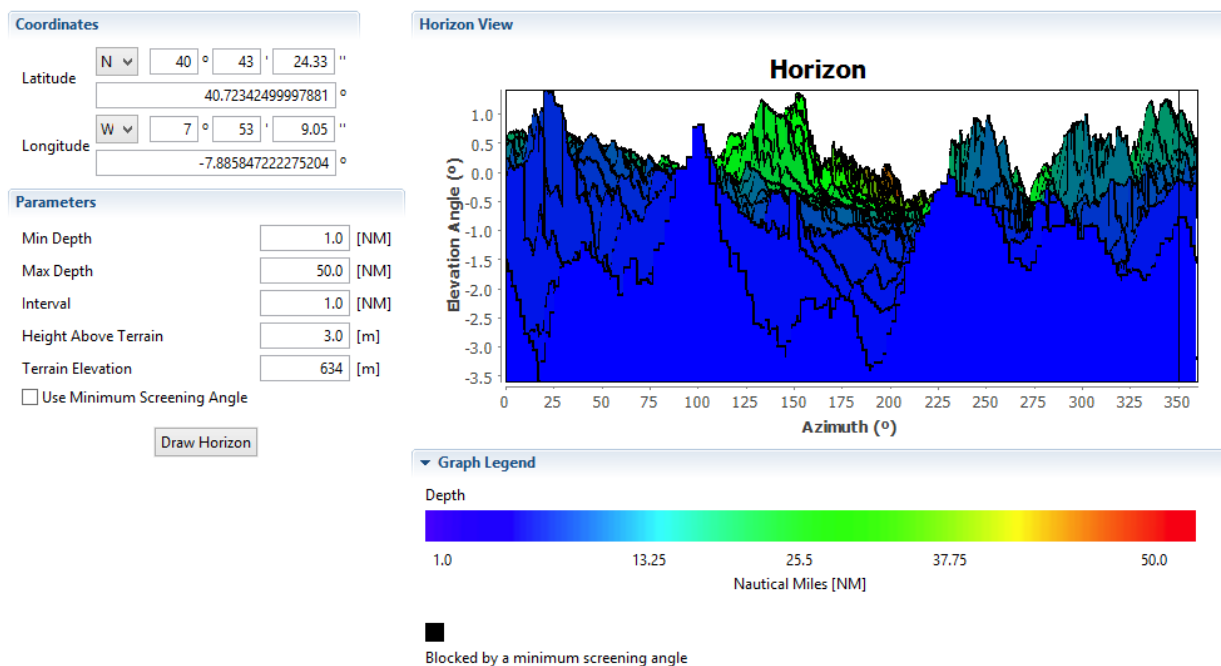

Figure 220: Horizon tool
- A new window like the one presented on Figure 220 will appear.